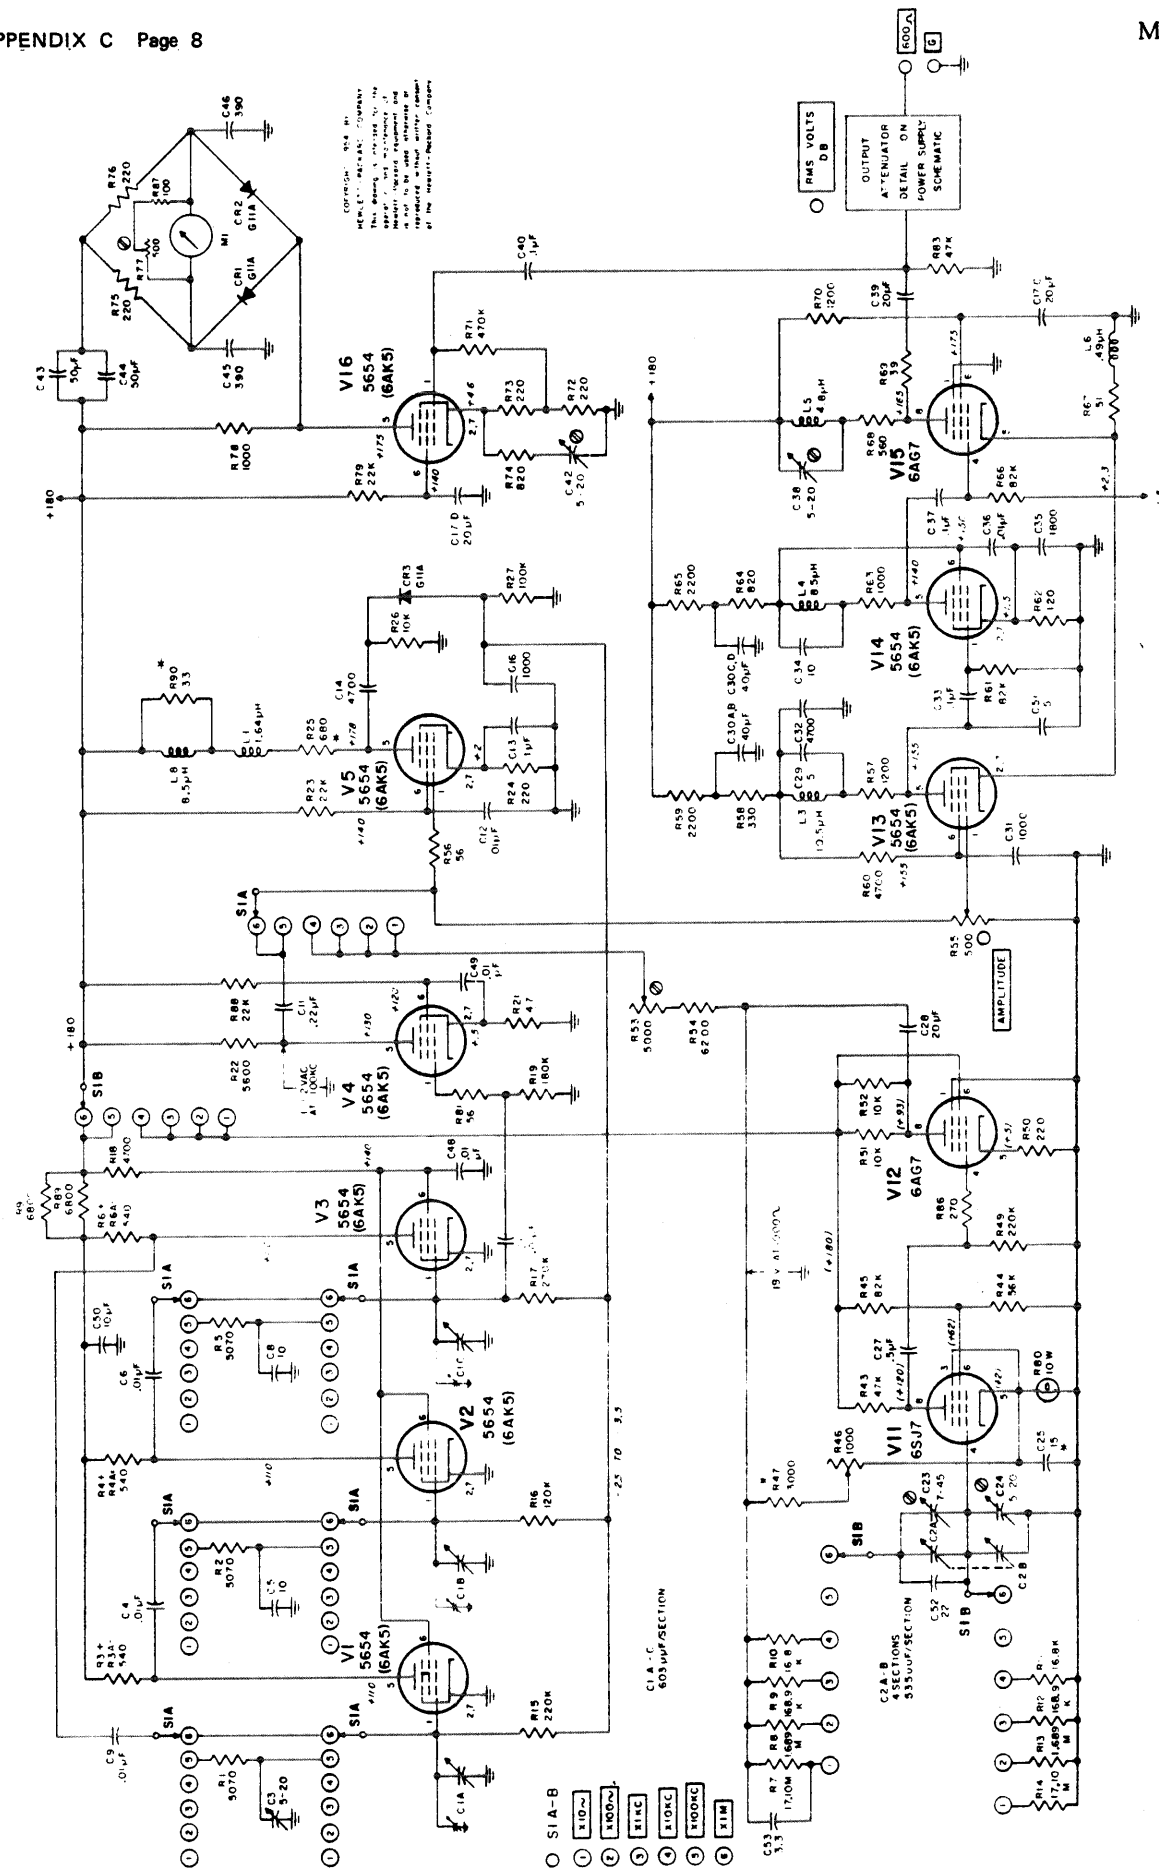
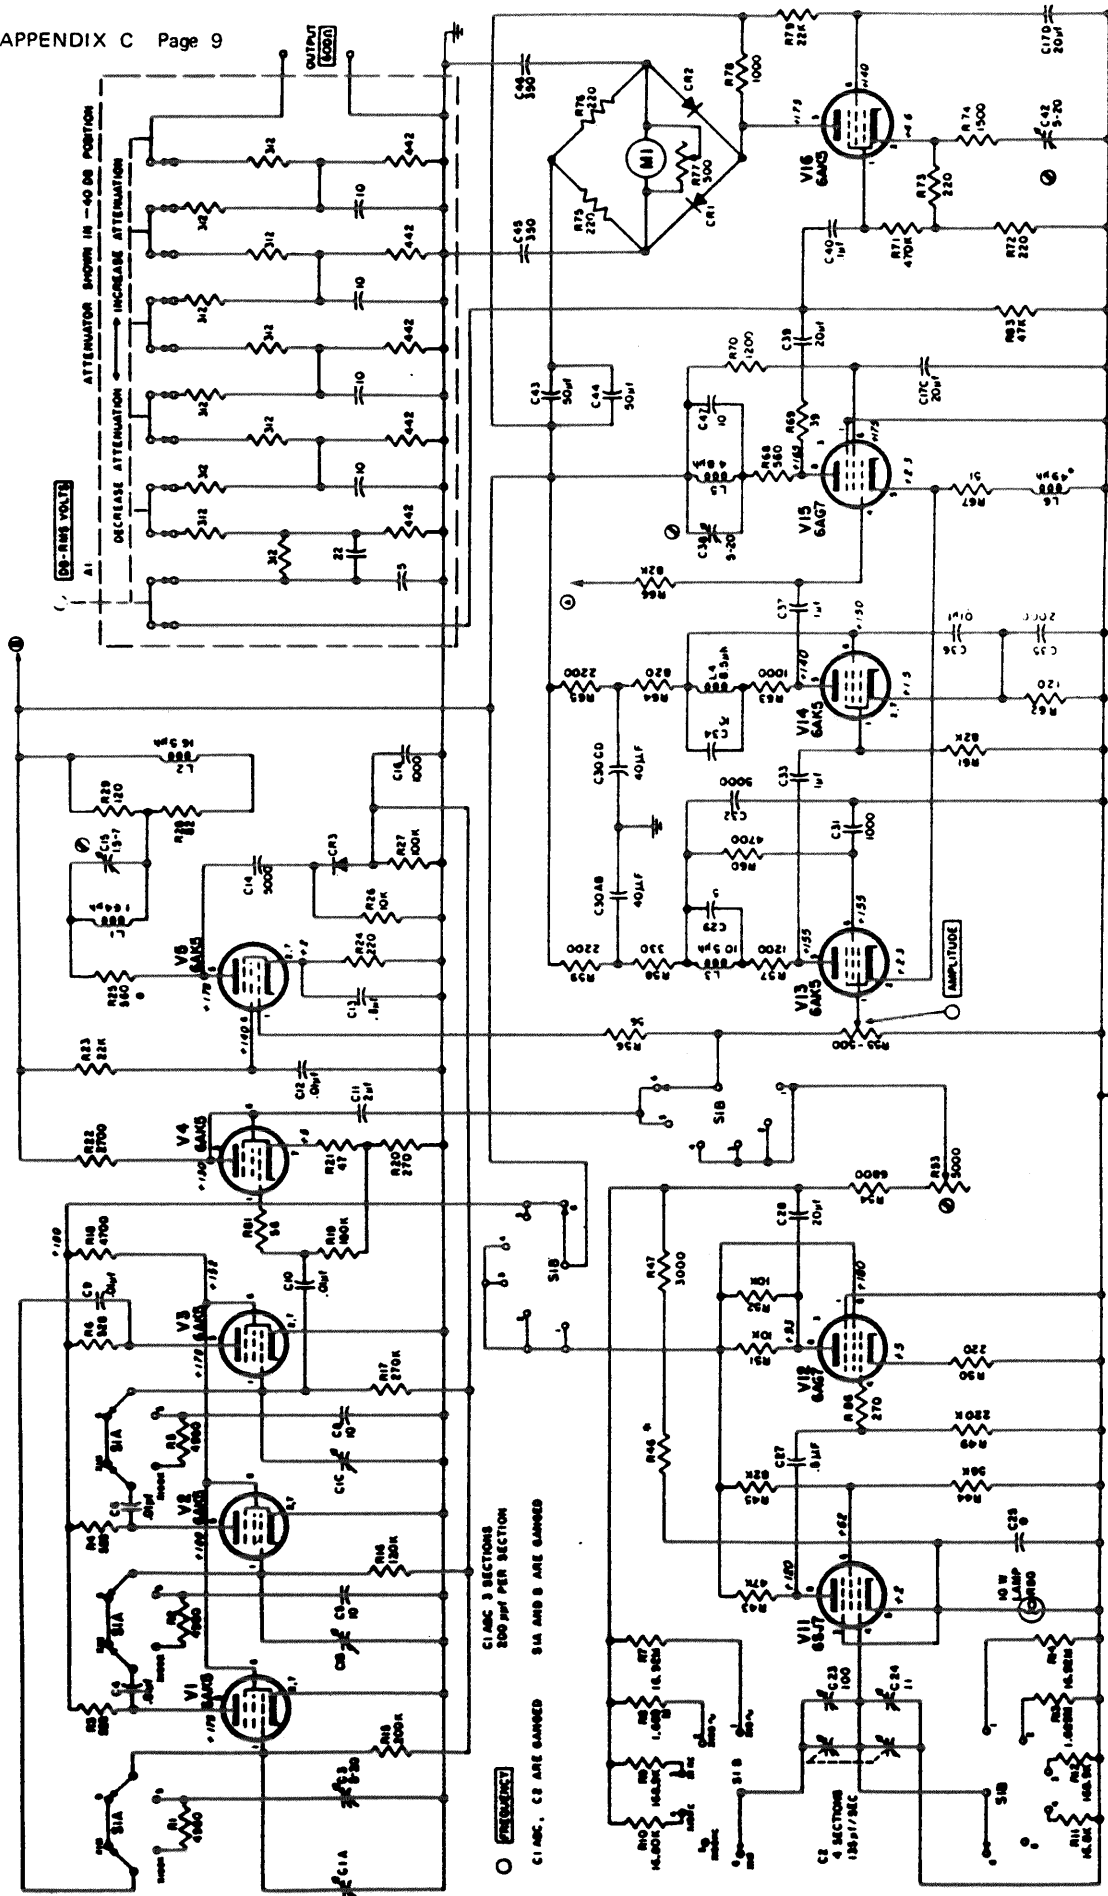

Figure 2 Model 650A Typical Oscillator Section
Figure 3 Schematic Diagram of Model 650A Oscillator Section, Serial No. 1349 and Below
These instruments do not require modification as their circuitry is that given in schematic diagrams of Figure 4-10 and the following figure 2. There will be some physical variations between instruments in this serial group.
A completely modernized instrument will have the basic circuitry, component values, and tube line up given in Figures 2 and 4-10. Frequency determining components in both oscillator circuits will vary in that values will differ and not all components shown in schematics will be in an instrument. No attempt should be made to make these two oscillators in an instrument agree exactly with Figure 2.
- 2) Replace crystal diodes CR1, CR2 and CR3 with frequency selected diodes available under h-p Stock No. 212-G11A. The cathode end of the diode is shown in the schematic of Figure 2 as a straight line or bar.
- 1) Add resistors R89 and R91 (6800 ohms $\pm 10\%$, 2 watts, composition) in series with B+ to V1, V2 and V3 oscillator tube plate circuits as shown in Figure 2. It may be necessary to install an insulated tie lug for mounting these resistors. Drill out rivet supporting resistor board near V2 socket to obtain mounting hole for this tie lug.
- 1) Check wiring of AVC Amplifier V5 plate circuit. Chokes L1 and L8 along with resistors R25 and R90 as shown in Figure 2 are the only components that should remain. Other components such as C15, R28, R29 or L2, shown in Figure 3, should be removed. Change R25 if necessary to make it a 1 watt composition resistor with a value of 680 ohms.
- 2) Replace resistor R20 in cathode circuit of Buffer Amplifier V4 with a wire jumper. This grounds one end of resistors R19 and 21 as shown in Figure 2. Refer to Figure 3 for R20 location.
- 3) Replace resistor R29 (120 or 68 ohms) with L8 and 8.6 μ h choke available under h-p Stock No. 65A-60D. Temporarily connect resistor R90 (33 to 82 ohms $\pm 10\%$, 1 watt, composition) in parallel with L8. Refer to Figure 3.
- 6) Rewire tube socket for low frequency oscillator tube V12 by referring to schematic diagrams of Figures 2 and 3. Replace type 6V6 tube with a type 6AG7 tube. Resistors R49 and R50 must then be changed and resistor R86 added as described in the next three steps.